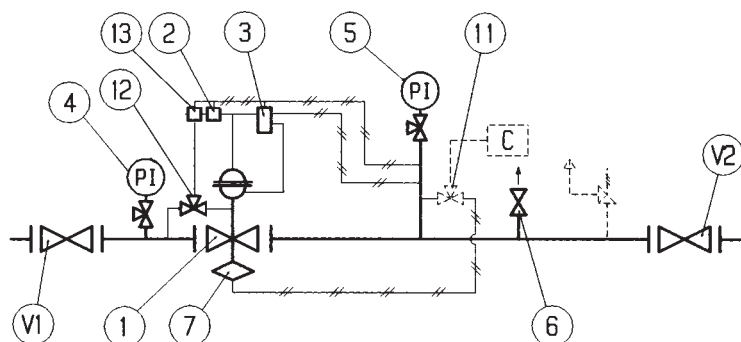

Fig. 20
5.3 COMMISSIONING THE REGULATOR WITH INCORPORATED SB/82 SLAM-SHUT (FIG. 20)